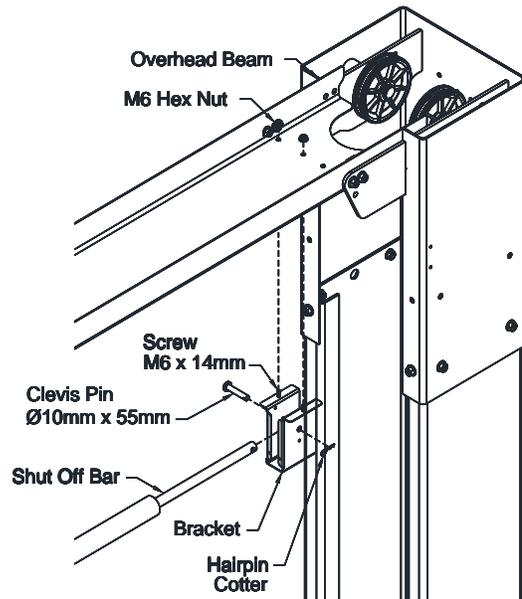

Fig. 9b – Overhead Bracket Idler Side
- 22) Install the idler bracket to the overhead beam using the rear set of holes on the idler side of the lift. **Fig. 9b.** Note the orientation of the idler bracket. The narrow slot needs to be facing towards the power column. Slide the shutoff bar over the limit switch on the power side. Pin the shutoff bar to the idler side bracket with the 10mm dia. x 55mm lg. clevis pin & hairpin cotter.